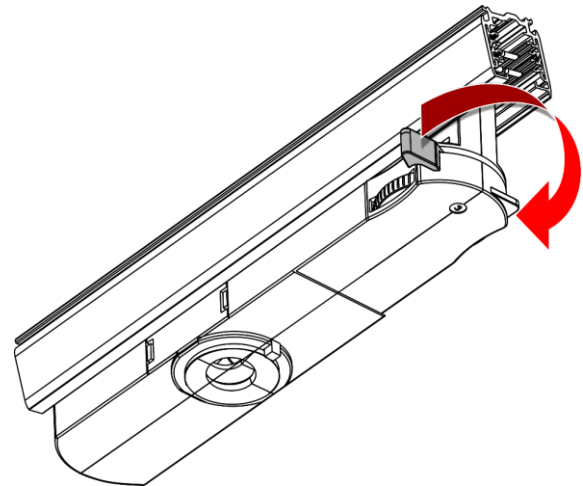

Fig. 07
- 04) Insert the **track adapter (01)** in the track and push it until it snaps into place.
- 05) Turn the **track lock (02)** clockwise to lock the device in the track, as shown in Fig. 07.